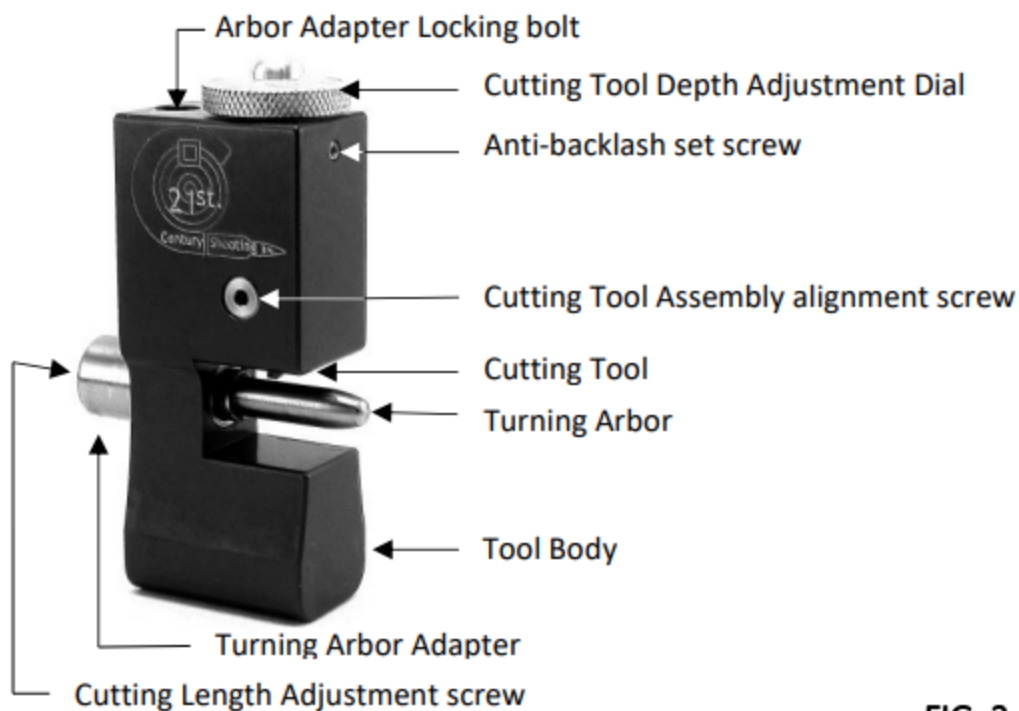

FIG. 3
1. Loosen the set Cutting Tool Assembly alignment screw and the anti-backlash set screw (FIG. 3)
Cutting Tool Turning Arbor Turning Arbor Adapter Tool Body FIG. 3 Cutting Length Adjustment